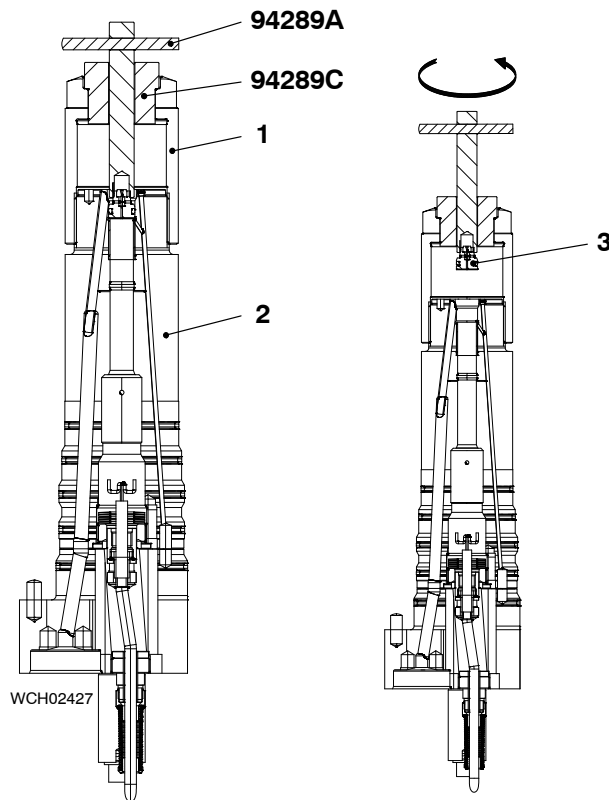

Fig. 3
- 1) Remove the pilot valve (3, Fig. 3) from the injection valve (2) as follows:
**Note: When you do the step blow, it is not necessary to torque the coupling nut (1).**
- 2) Attach the coupling nut (1) to the injection valve (2).
- 3) Attach the bush (94289C) to the coupling nut (1).
- 5) Engage the T-handle (94289A) with the pilot valve (3).
- 6) Turn the T-handle (94289A) to remove the pilot valve (3).